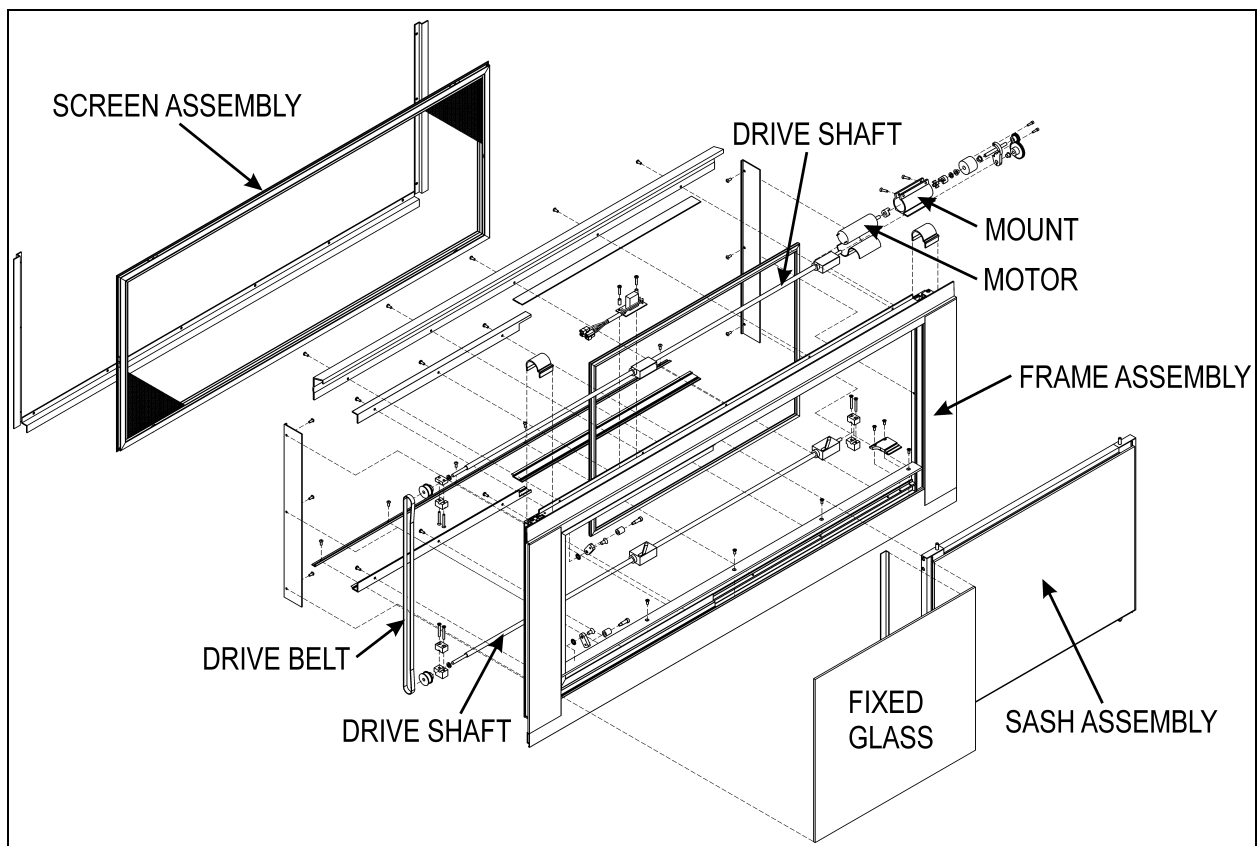

FIGURE 107: ELECTRIC SLIDING WINDOW EXPLODED VIEW
2. Pull down on both release latches simultaneously and rotate the sash inwards approximately 10 degrees.(Figure 107)